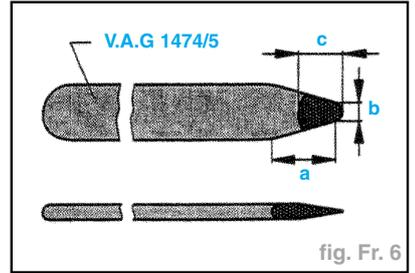

fig. Fr. 6
- Rectification du coin (fig. Fr. 6) :